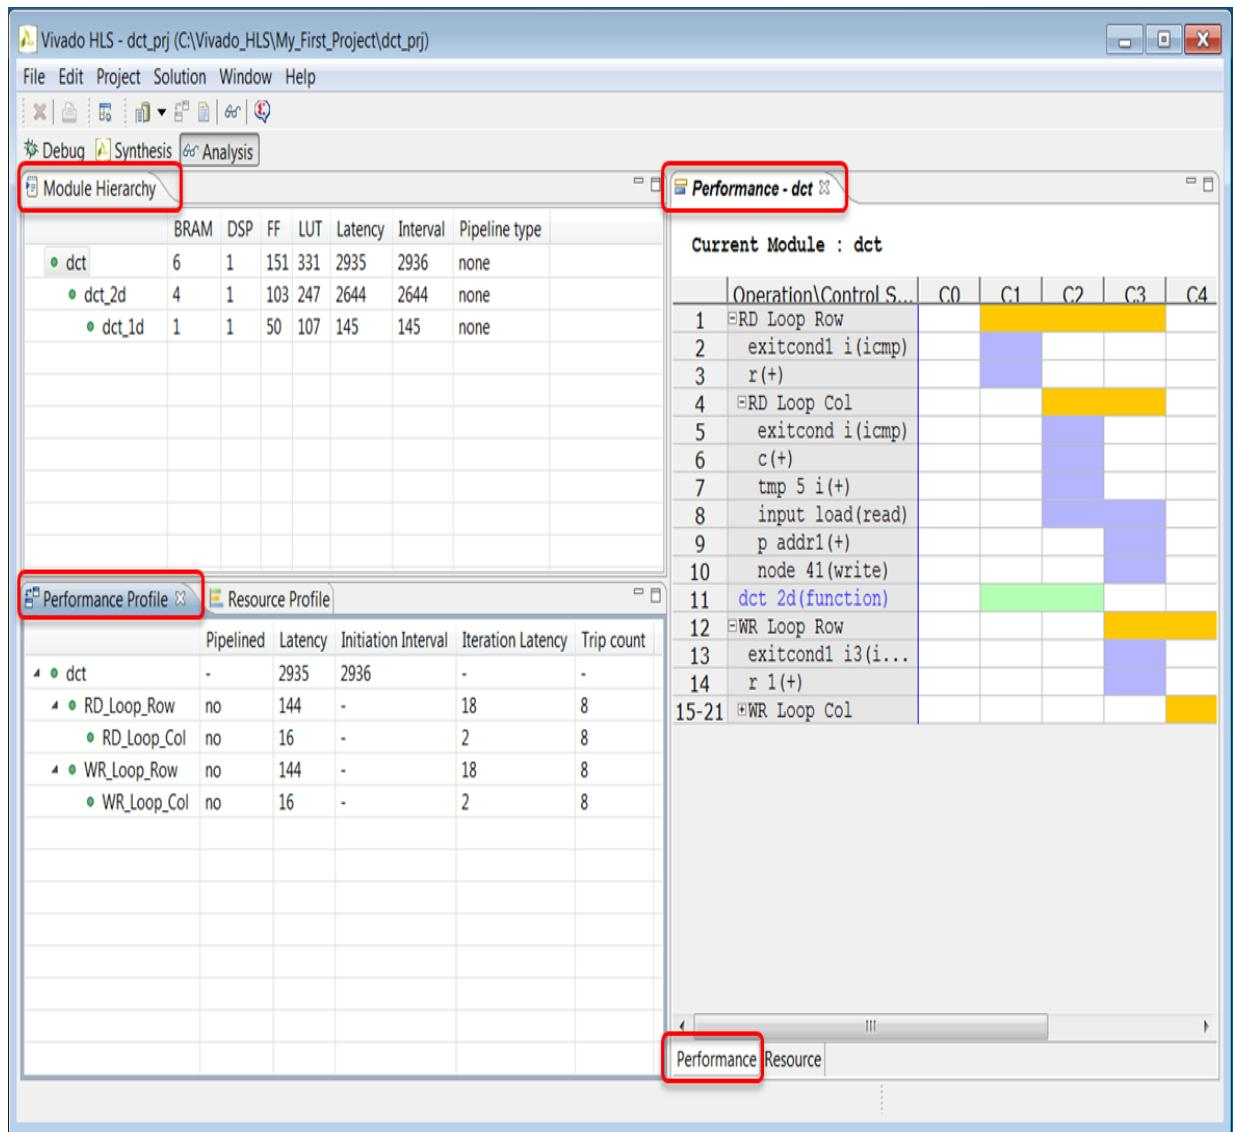

Figure 1-23: The Analysis Perspective
Figure 1-23 shows the default window configuration when the Analysis Perspective is first opened.
- A loop called `RD_Loop_Row`. In Figure 1-23 the loop hierarchy for loop `RD_Loop_Row` has been expanded.